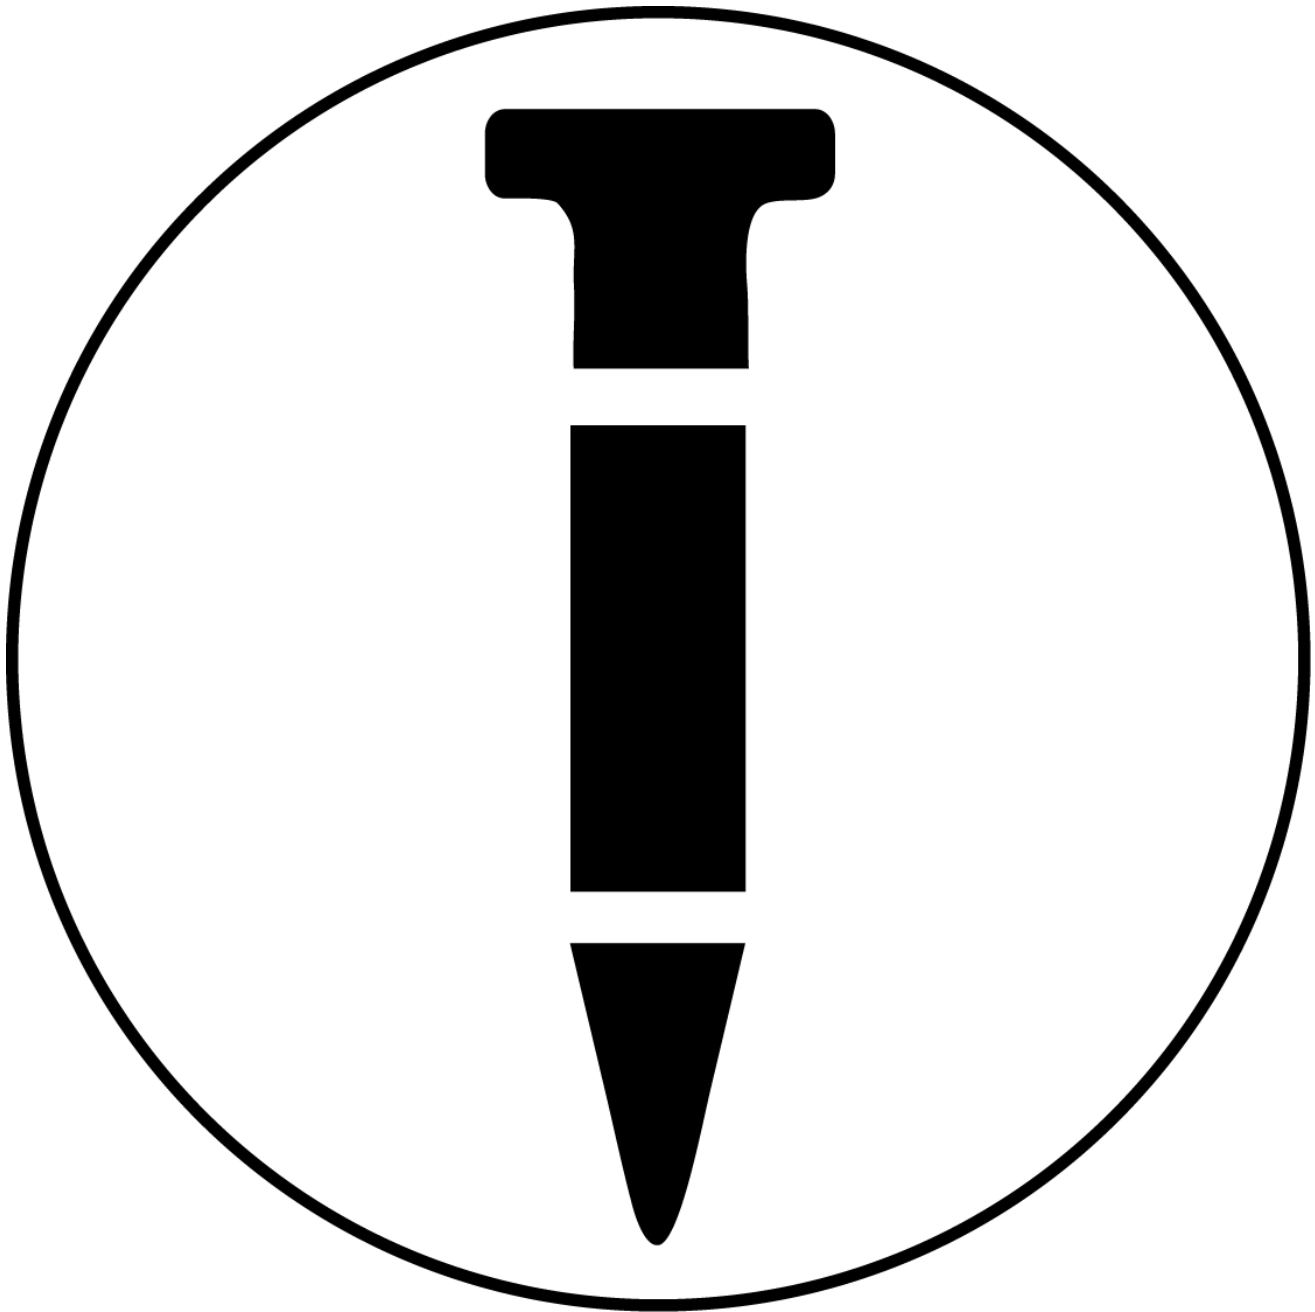

FIGURE 1—THREE MANUFACTURER'S SYMBOLS (LOGOS) FOR FASTENER HEADS
- 7.1 Cartons of the pneumatic fasteners must be labeled with the Aerosmith Fastening Systems company name, part number (2324A, 2325A or 2385A), lot number, evaluation report number (ESR-1641) and the VersaPIN™ designation. The head of each fastener must feature a logo symbol as shown in Figure 1.